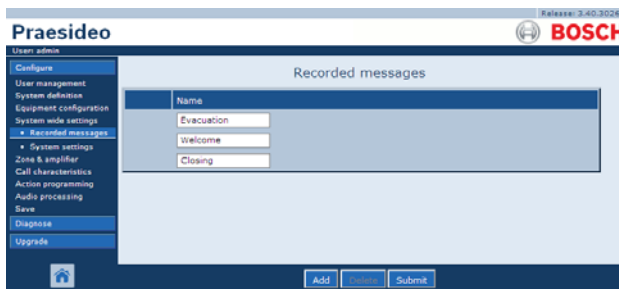

figure 44.8: Register message, step 4
- 4 Click the *OK* button to confirm that the message must be deleted from the list. A screen similar to the one in the figure 44.8 appears in the main frame of the web interface.